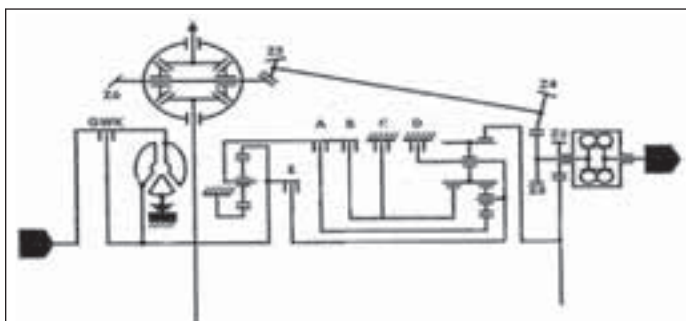
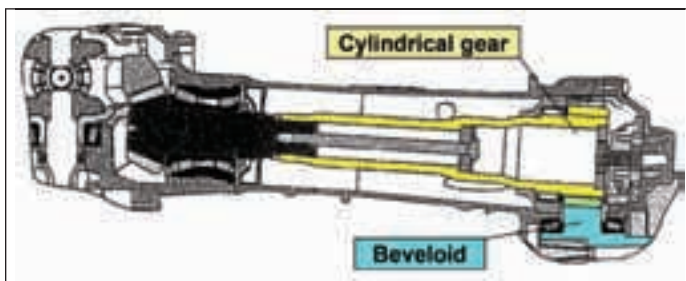

Figure 2—Schematic view of drive train of six-speed automatic gearbox 6HP32.
Figure 3—Drive shaft with beveloid gear pair.
- Automatic transmissions for AWD vehicles (Fig. 2).
Originating from the planetary gear, the power flows via a spur gear to the Torsen differential, where the torque is distributed to the cardan shaft (50%) and via an intermediate stage to the front-axle bevel gear (50%), as shown in Figure 2. The skew drive shaft is an indispensable benefit of the package. With a parallel drive shaft arrangement, the tunnel dimensions would have been too big to permit realization of a right-hand drive vehicle. The skew drive shaft was made possible by a beveloid gear and an adapted bevel gear (85° shaft angle). Transfer gear and bevel gear share a common oil circuit. Lubrication is effected via a separate oil pump, which is driven via the drive shaft, as shown in Figure 3. Development of this beveloid gear is described below.